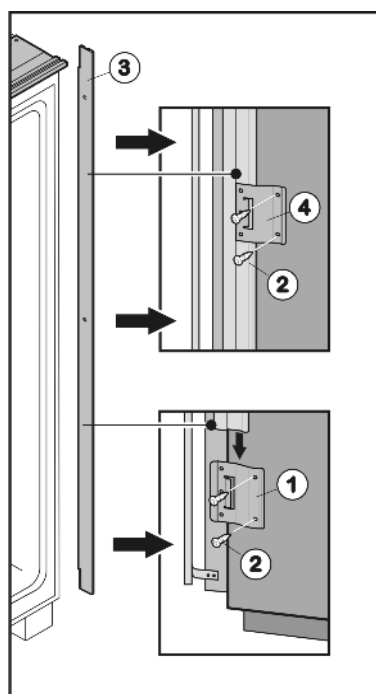
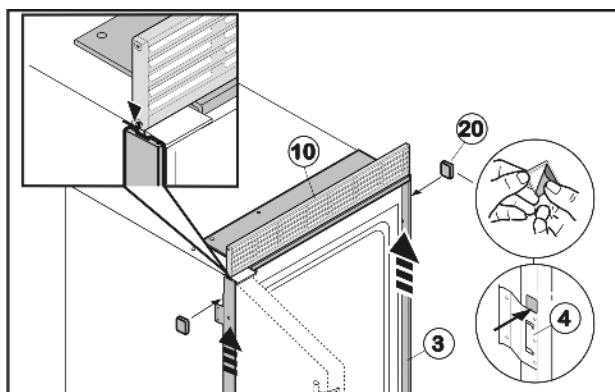
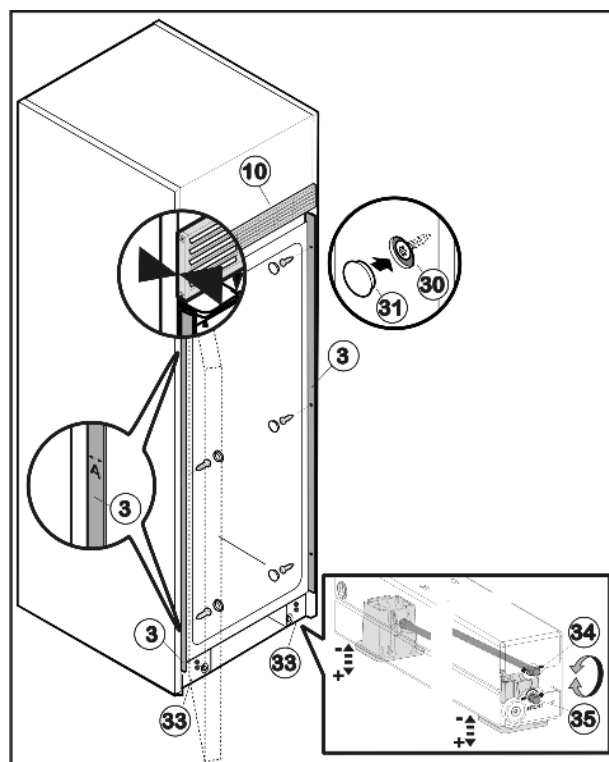

Fig. 38
Fig. 41
Fig. 42
- Fit retaining plate Fig. 38 (1) to the lower part of the handle side by inserting two screws Fig. 38 (2) into the pre-cut holes.
- Slide installation strip Fig. 38 (3) into the retaining plate Fig. 38 (1) from above.
- Push second retaining plate Fig. 38 (4) onto the installation strip Fig. 38 (3) from above and screw to the center of the side wall.
- Push third retaining plate Fig. 38 (4) onto the installation strip Fig. 38 (3) from above and screw to the top part of the side wall.
- Remove adhesive tape from the side installation strip *Fig. 41 (3)*.
- Push installation strip *Fig. 41 (3)* upwards until it is touching the ventilation grille *Fig. 41 (10)*.
- Glue the adhesive plates *Fig. 41 (20)* above the retaining plate *Fig. 38 (1)* and the retaining plates *Fig. 41 (4)* respectively to the installation strip *Fig. 41 (3)* such that it cannot slide downwards.
- Push the appliance into the recess until the rear edge of the ventilation grille *Fig. 42 (10)* is flush with the front edge of the side wall of the cabinet.
- Align appliance inside the recess above the roller bases *Fig. 42 (33)* using a spirit level: Use upper adjustment setting (1/4") *Fig. 42 (34)* for the rear adjustable foot and lower adjustment setting (1/4") *Fig. 42 (35)* for the front adjustable foot respectively. Turn clockwise to raise and counterclockwise to lower. Maximum adjustable height: 5/8 in (16 mm).
- At the top and bottom of the recess check the gap **A** between the front edge of the installation strip *Fig. 42 (3)* and the front edge of the side wall of the unit. It must be 1/2" (13 mm). Realign the appliance in the recess if required.
- Secure appliance inside the recess using three screws *Fig. 42 (30)* on the handle side and the hinge side respectively. Do not scratch the side installation strip *Fig. 41 (3)* when doing so.
- Place cover caps *Fig. 42 (31)* over the screws.